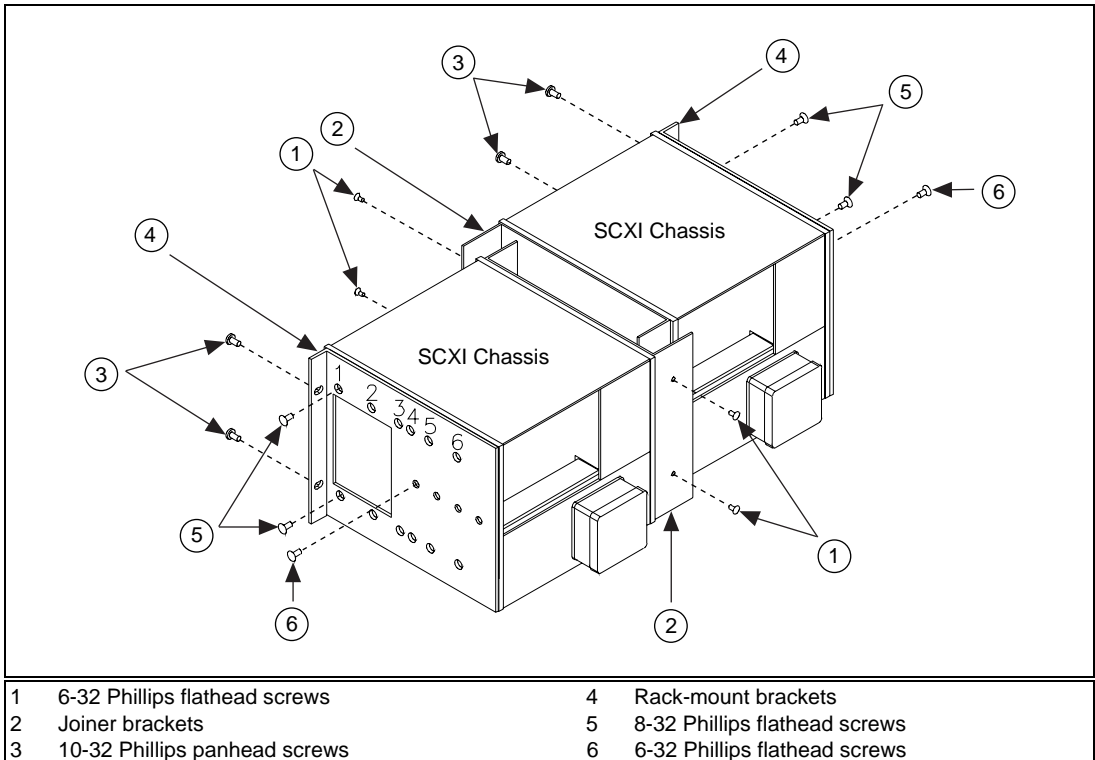

Figure 2. Rack-Mount Kit Installation
Refer to Figures 1 and 2 as you perform the following installation steps. The rack-mount brackets (item 4 in Figure 2) can be mounted in one of six positions to attain different depths. For detailed measurements of the
Refer to Figure 2 as you perform the following steps: